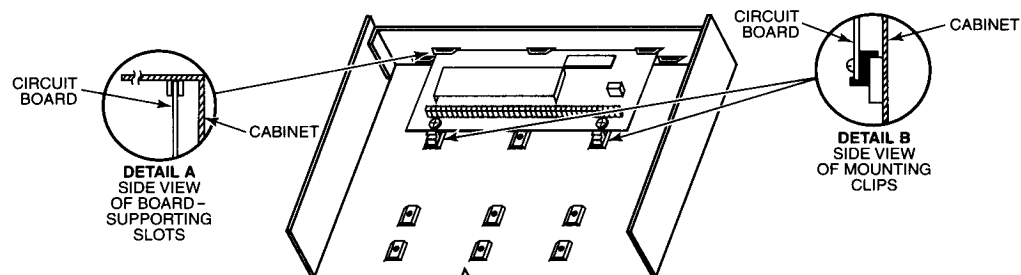

Figure 2. Mounting the PC Board
1. Hang two short mounting clips (provided) on the raised cabinet tabs (see Detail B in Fig. 2).